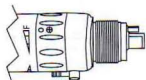

Figure.3
② Hand file
- Push the push button to open the chuck(Fig.3)
Turn the switch to F side.(see figure.3).